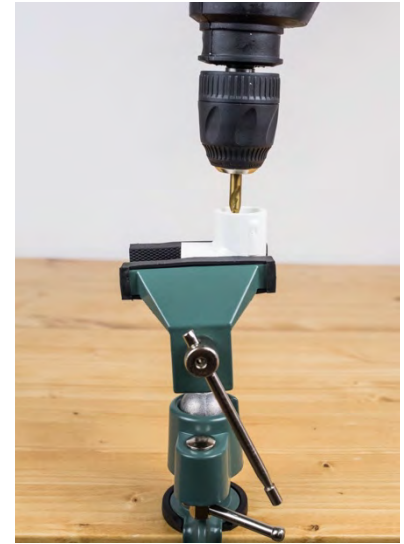

Figure 14
- Clamp one elbow in the table vise as shown with both rubber pads on the vise jaws. (Figure 14)